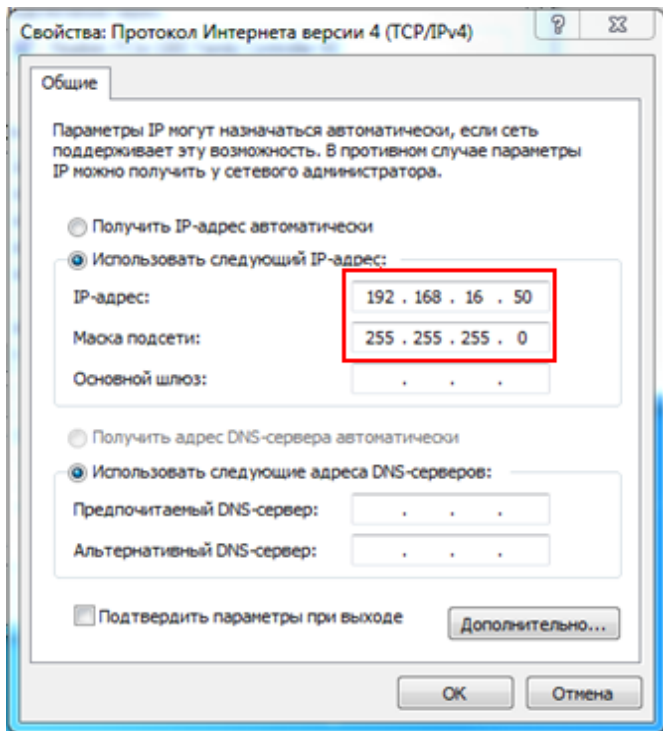

Figure 3.5 – IP-address setting window
- 5) Set **IP-address 192.168.16.50** and subnet mask **255.255.255.0** as it is showed in Figure 3.5. These parameters are spread to the network card of PC. Instead number 50 of IP-address you can set any number, except 255 and 200. Transceiver IP-address is **192.168.16.200** by default. After setting push OK. Here IP-address setting is over.